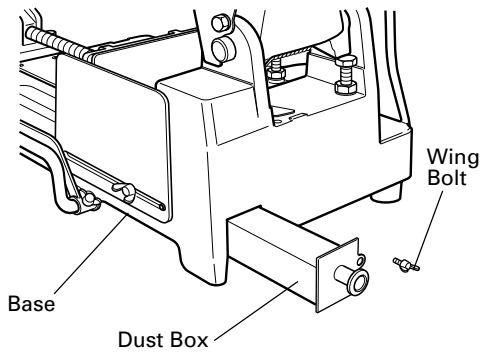

Fig. 17
8. How to use the dust box (Fig. 17)